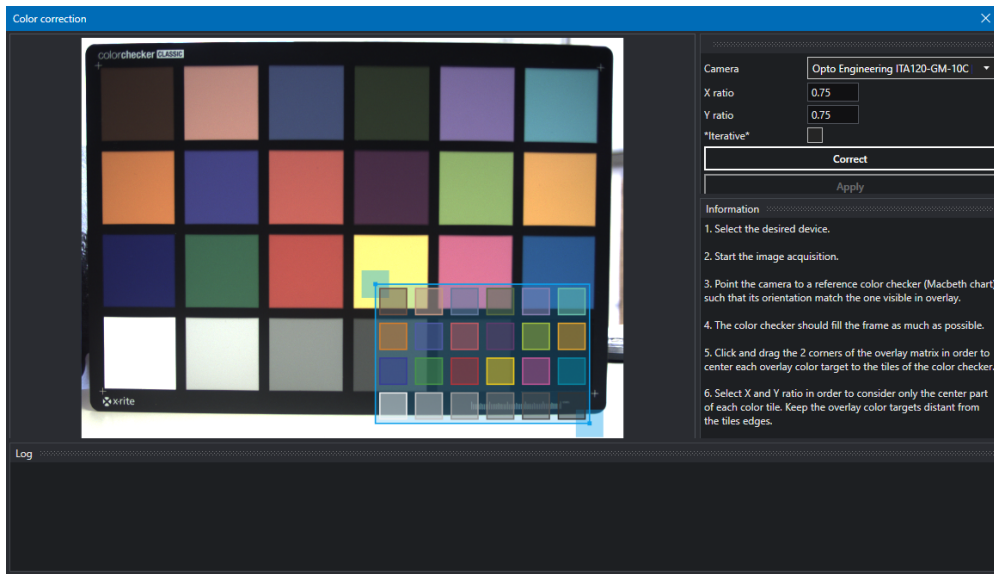

Figure 39: Window of the color correction wizard.
3. Open the Color Correction Wizard (*Wizard > Color correction*) (Fig.39).